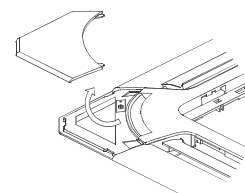

Fig. 5-9
- Wrench off the bolts, loose the rope of the installation covers, and remove them. (Refer to Fig.5-9)